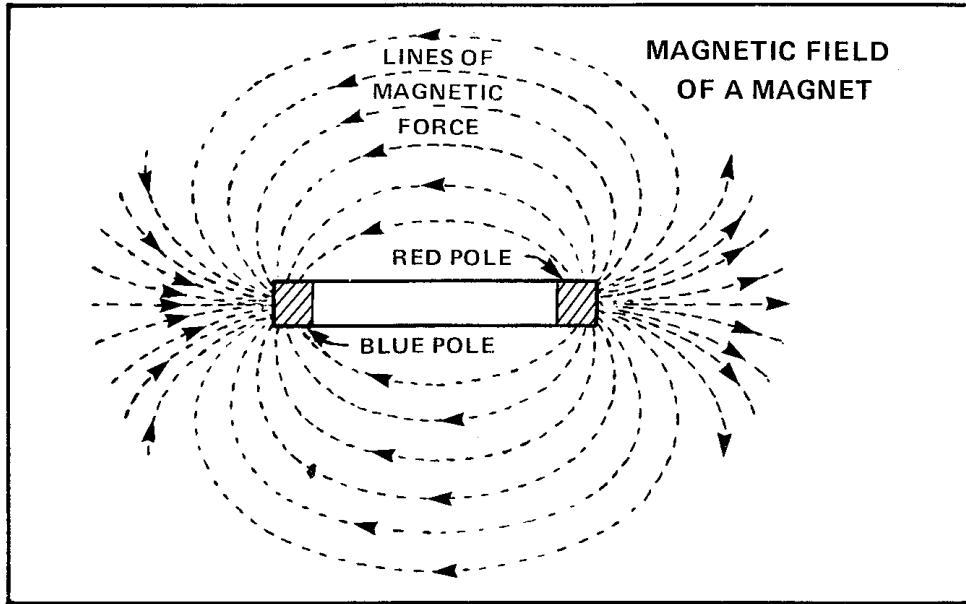

Figure 7-1 Magnetic Field of a Magnet
- 3. Magnetic Fields and Magnetic Force** — Anything with magnetic properties will exert a magnetic influence over an area immediately around it. This area is known as its **magnetic field**, and consists of curved **lines of magnetic force** which run between the two poles (Figure 7-1). Any comparatively small magnetic article, such as a needle, when placed within a magnetic field will tend to align itself along these lines of magnetic force.